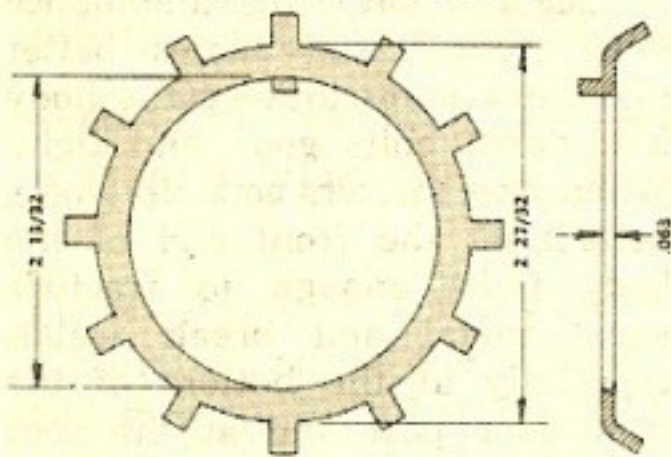
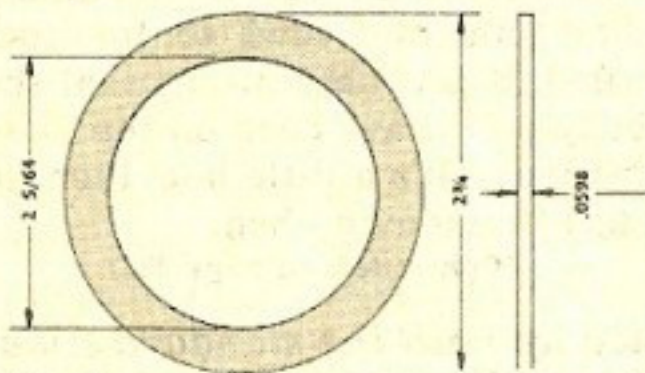

Fig. 2
Fig. 3
TB ORD 167 (17 Aug. 44) says you can do one of three things to solve the problem: (1) Requisition Washer, spring spacer, GM No. 2202834—the washer that should've been in the kit. (2) Requisition Washer, ball-bearing lock, Item Stock No. H12-711213 (old Item Stock No. M5-2-59100), Fig. 2. It's a bit thicker and larger than the real thing, but okay to use if ground down to the diameter shown. Or (3) follow the dimensions in Fig. 3 and make the washer from scratch.